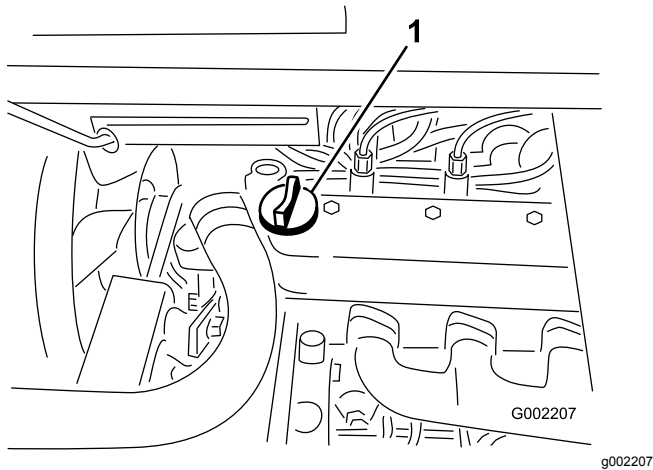

Figure 19
4. If the oil level is low, remove the filler cap from the valve cover (Figure 19) and pour oil into the opening until the oil level is up to the Full mark on the dipstick; refer to Servicing the Engine Oil \(page 37\), for the proper oil type and viscosity.